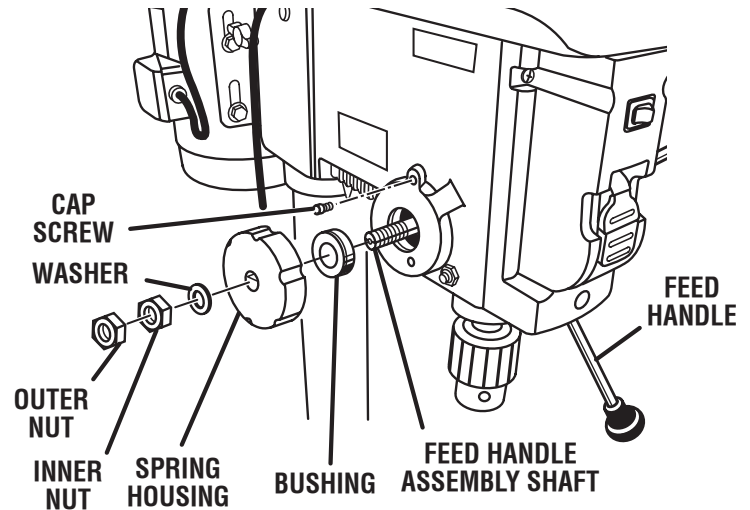

Fig. 23
See Figures 23 - 27.
- Firmly hold spring housing against head so it remains engaged with the 4 mm cap screw. Remove both nuts and washer from the feed handle assembly shaft. See Figure 23.